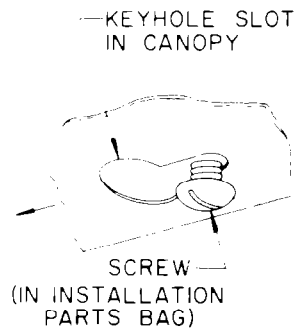

Figure 3
8. Tighten four mounting screws to secure hood to cabinet. Be sure the screw heads are in the narrow neck of the keyhole slot. See Figure 3.